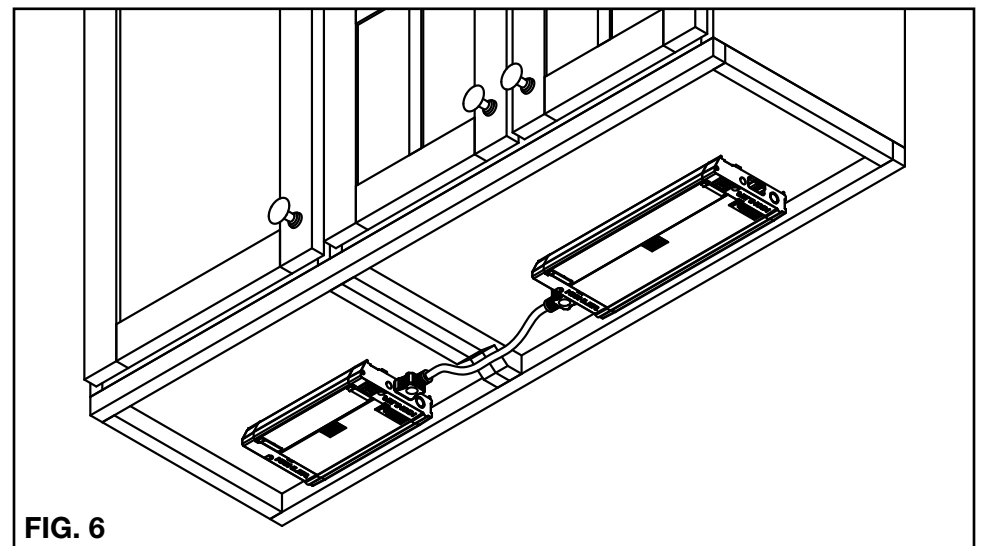

FIG. 6
2. Hold the fixture in the desired mounting location, not more than 21" from nearest interconnected fixture, allowing approximately 2 1/2" clearance for interconnect cables. Drive mounting screws into cabinet surface until fixture is secure. If screws are difficult to install, mark holes and drill 1/16" maximum pilot holes. (ref. FIG. 6)